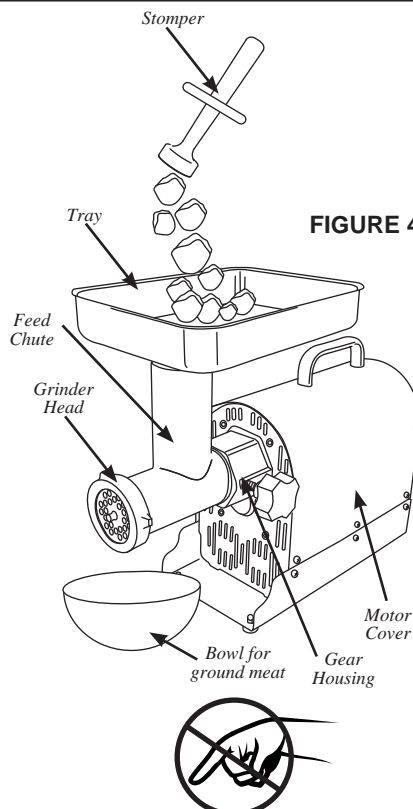

FIGURE 4
6. Place a dish or bowl to collect the ground meat at the end of the **Grinder Head** (Figure 4).